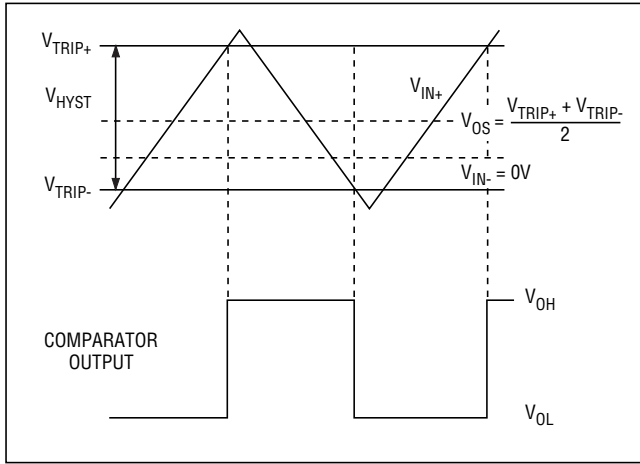

Figure 1. Input and Output Waveforms, Noninverting Input Varied
- Note 2:** Input Offset Voltage is defined as the center of the input-referred hysteresis zone. Specified for $V_{CM} = 0V$ (see Figure 1).
Adding hysteresis to a comparator creates two trip points: one for the input voltage rising and one for the input voltage falling (Figure 1). The difference between these two input-referred trip points is the hysteresis.
Figure 1 illustrates the case where IN- is fixed and IN+ is varied. If the inputs were reversed, the figure would look the same, except the output would be inverted.